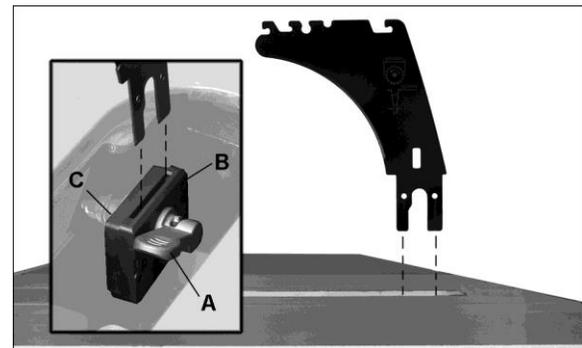

Figure 5-9
See Figure 5-9.
4. Through the saw table opening, pull up lever (A, Figure 5-9). The floating clamp block (B) will move away from the fixed block (C), leaving a gap.
The clamping block (Figure 5-9) is adjusted at the factory and no further adjustment of blade guard and riving knife assembly should be necessary. However, proper alignment is very important. Before operating table saw, read *sect. 7.3, Riving knife alignment*, to verify and follow the adjustment procedure if necessary.